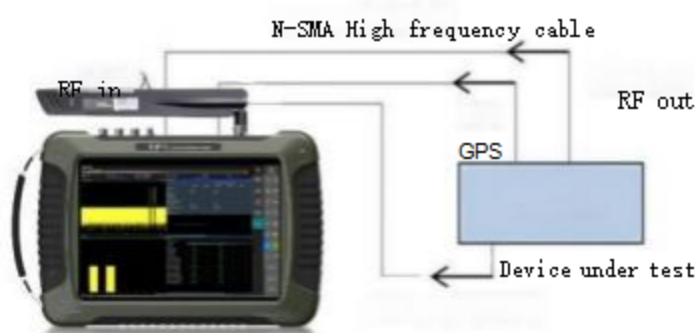

Figure 8.2 Parameter setting diagram
- In the [Signal Description] property page, select the test template: E-TM 1 \_ 1 \_\_ 10 MHz, and the setting interface is shown in Figure 8.2: